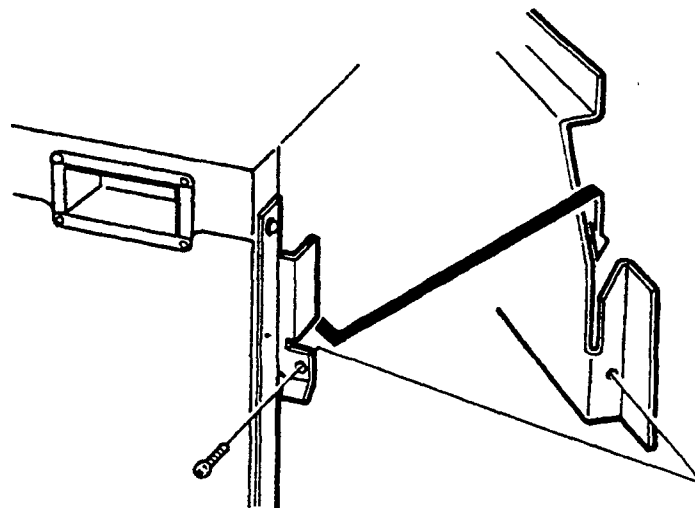

Figure 3-43 Attaching the Level II Advanced Basic KSU to the Wall Mount Bracket
2. Holding the Basic ESF-XB-10 KSU, lower the two hooks that protrude from the rear of the KSU over the wall mount bracket and secure to the wall mount bracket from the side using the two provided bolts. Refer to Figure 3-43 - Attaching the Level II Advanced Basic KSU to the Wall Mount Bracket.